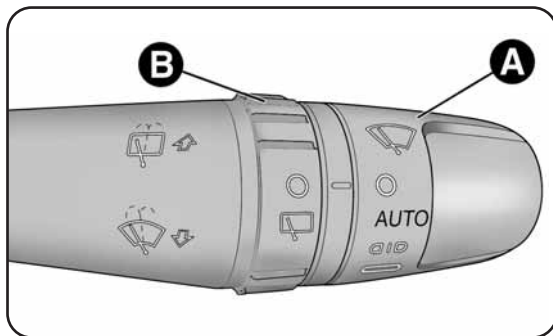

fig. 34
WINDSCREEN WIPER/WASHER fig. 34
The sensor is activated by turning selector wheel A-fig. 34 to the automatic position (AUTO): in this way the windscreen wiper strokes are regulated in accordance with the amount of water on the windscreen. The frequency can vary between no strokes (no rain - windscreen dry) and the 2nd continuous speed (intense rain - windscreen wet).
The sensitivity of the rain sensor can be adjusted by operating selector wheel A-fig. 34.
- adjust the sensitivity (by turning selector wheel A-fig. 34 to increase or decrease).
This only operates with the ignition turned to MAR. The function stops when the lever is released. Turning selector wheel B-fig. 34 from position **O** to position  activates the rear screen wiper according to the following: